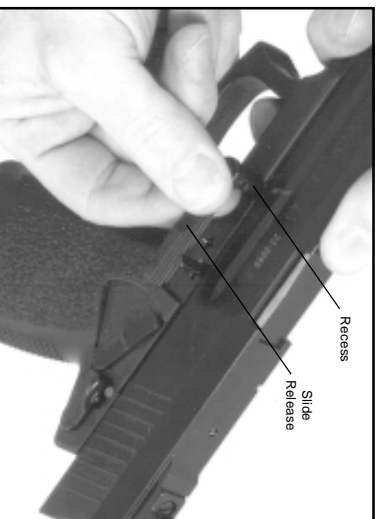

Figure 10
4. Using the left hand, retract and hold the slide to the rear approximately 22 mm until the front end of the slide release is centered on the recess visible on the left side of the slide (See Figure 10).